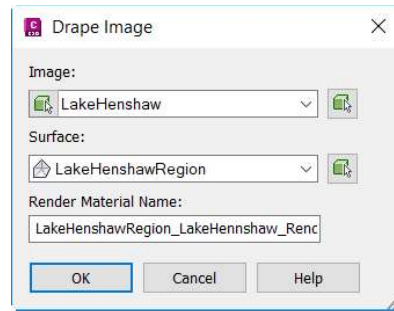

Figure 3-83 The Drape Image dialog box
2. In this tab, choose the **Drape Image** tool from the **Surface Tools** panel; the **Drape Image** dialog box is displayed, as shown in Figure 3-83. Accept the default values in the dialog box and choose the **OK** button; the dialog box is closed and the image is draped over the surface.